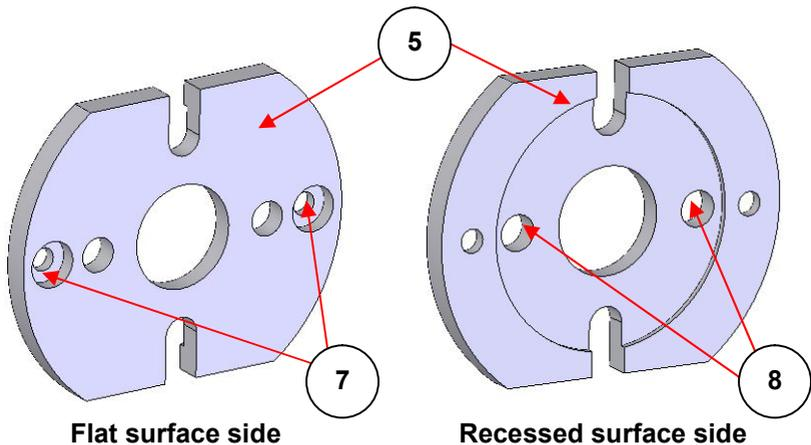
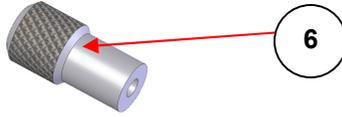

Fig 3. Front cover plate (both sides seen) to hold High Pressure Liquid Cell when placed in the Electrical Heating Jacket GS20730
Fig 4. Thumbscrew (2 off) used with the front cover plate (5)
2. Replace the standard front cover plate of the Electrical Heating Jacket with the front cover plate (5) supplied with the High Pressure Heatable Liquid Cell (Fig 3) and secure using the thumb screws (6) supplied with the High Pressure Liquid Cell (see Fig 4) in place of the standard "quick-release" thumbscrews as supplied with the Electrical Heating Jacket.
From **Figs 3 and 4** the thumbscrews (**6**) hold the front cover plate (**5**) to the screw threaded studs of the Electrical Heating Jacket through the holes identified at (**7**). For insertion of the controlling thermocouple of the Electrical Heating Jacket into the High Pressure Liquid Cell, one of the holes identified at (**8**) is used on the front cover plate (**5**), depending on which surface of the front cover plate (flat or recessed) is in contact with the High Pressure Liquid Cell.
7. Connect the thermocouple from the temperature controller to the thermocouple hole (**9**) in the body and at the front of the High Pressure Liquid Cell. (See **Fig 5**). The thermocouple will also pass through the front cover plate through one of the hole positions (**8**) as seen at **Fig 3**. Positioning of the thermocouple here in the High Pressure Liquid Cell enables the temperature of the cell to be monitored very close to the liquid sample.